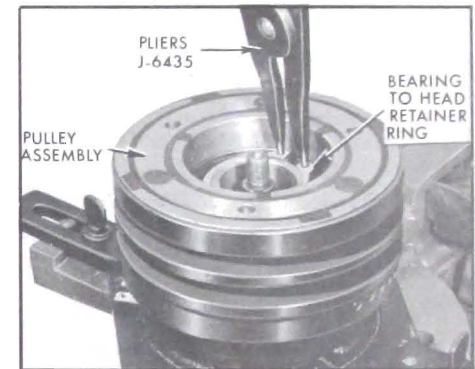

Figure 11-104—Removing or Installing Bearing to Head Retainer Ring
2. Remove pulley assembly re- tainer ring, using J-6435, No. 26 Truarc Pliers. See Figure 11-104.